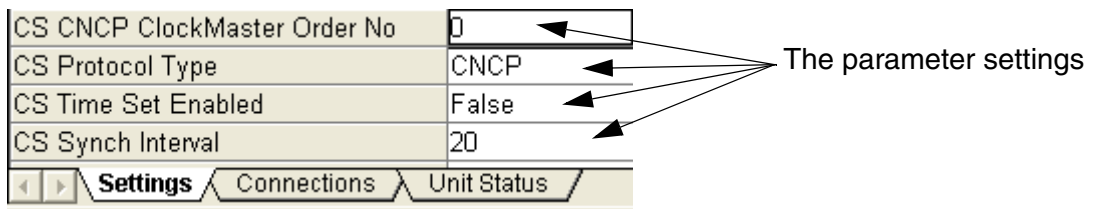

Figure 89. The parameter settings under the Settings tab in the hardware editor.
3. Set the following (four) parameters according to Figure 89. The setting *CS Time Set Enabled* can be set to `True` if local time source is used.